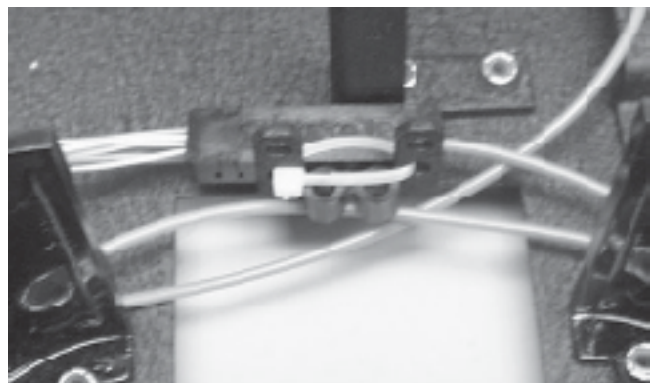

Figure 20
12.4 Route the buffer tubes around the radius guides and secure the fan-outs to the fan-out bracket as shown using a cable tie (Figure 20).